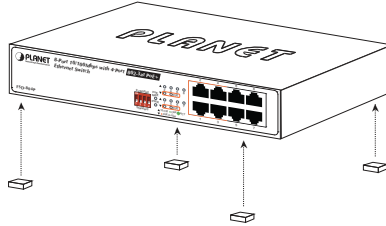

Figure 3-1: Attaching the Rubber Feet to the FSD-804P
Step 1: Attach the rubber feet to the recessed areas on the bottom of the FSD-804P, as shown in Figure 3-1.